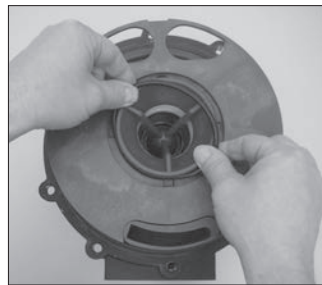

Figure 32
7. Lubricate the inner volute o-ring (item 4) with a chemically compatible lubricant and install in the groove on the round suction nozzle in the center of the inner volute. See figure 32.